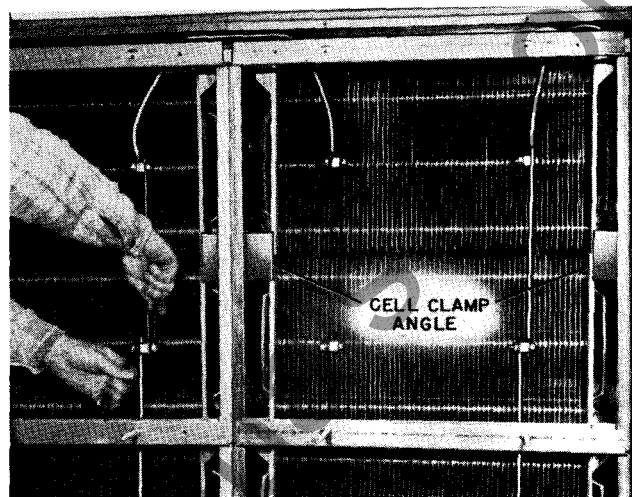

Fig. 17 Installing the Cell Tier Connectors
**Cell Tier Connectors** are furnished (taped to each cell) and are installed as shown in Fig. 17. One connector is required vertically between each cell.